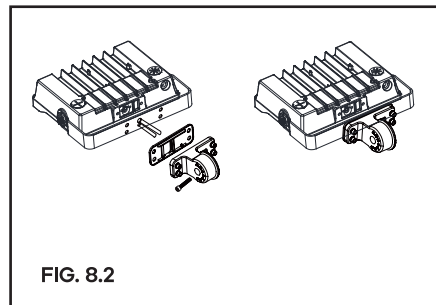

FIG. 8.2
STEP 2. Put the core wire through the waterproof rubber plug, through the bracket fixing seat and match with the waterproof rubber plug. **FIG. 8.2**